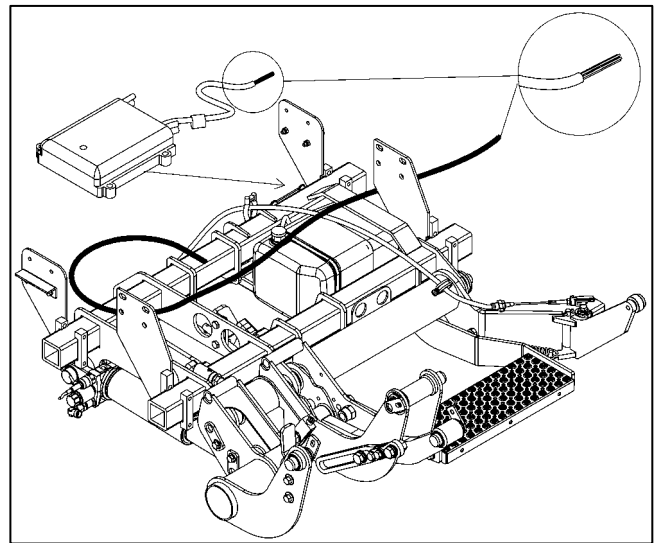

Fig. 23
- Determine the installation location for the handheld control and route the cable to the installation location (see Fig. 23).